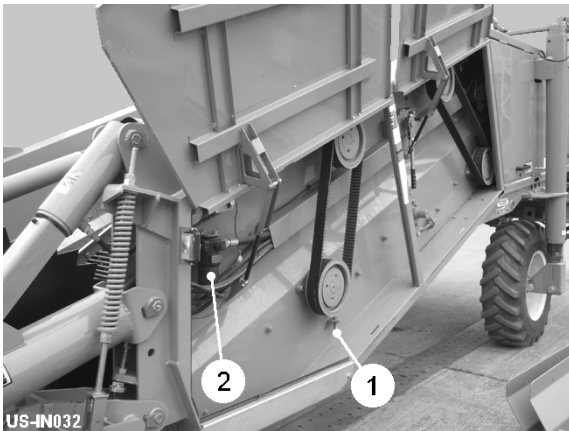
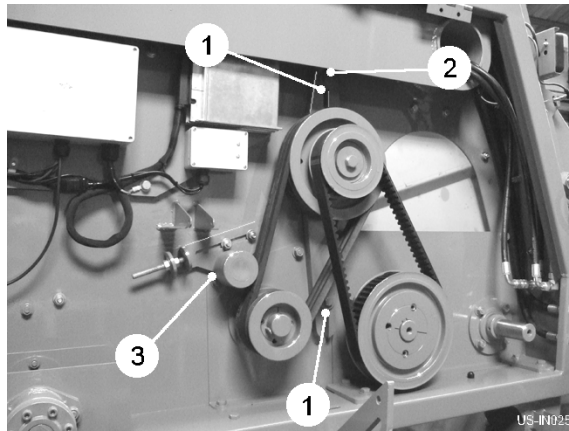

Fig 20
Fig 21
The toothed drive belts have adjusters (item 1, fig 20) that are visible when the appropriate guard is opened. As a guide, correct belt tension is achieved when, at a distance half way between the furthest spaced pulleys, the belt can be twisted no more than 45° longitudinally. To set the boulder box belt tension (if fitted), firstly set the toothed belt tension by loosening the fixing bolts (item 1, fig 21) and adjusting the tensioner bolt (item 2, fig 21). Finally, adjust the 'V' belt tensioner (item 3, fig 21). Set the 'V' belts tight enough to give a positive drive without undue stretching.
A pressure filter (item 2, fig 20) is mounted in the supply line from the tractor. The element should be replaced after the first 50 hours of running time and then annually or every 500 hours thereafter.